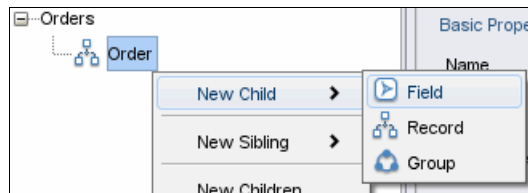

Figure 12-21 Creating a new field within the record
6. In the Schema Layout tab, right-click **Orders** → **Order** → **New Child** → **Field** (Figure 12-21):